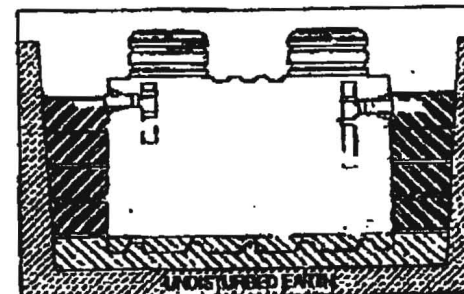

Figure 4.
- Tamp and compact backfill under inlet and outlet pipe [Figure 4].